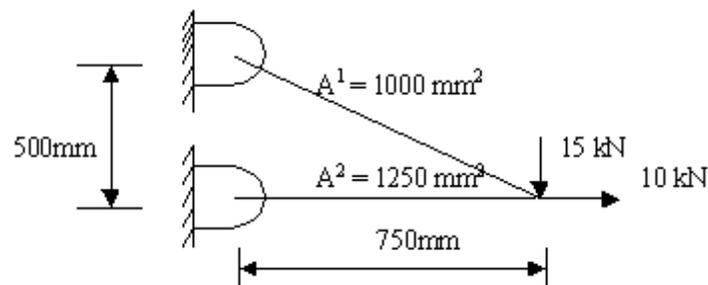

Figure 1:
- For the pin jointed truss shown in figure1. If  $E = 200 \text{ Gpa}$ , determine